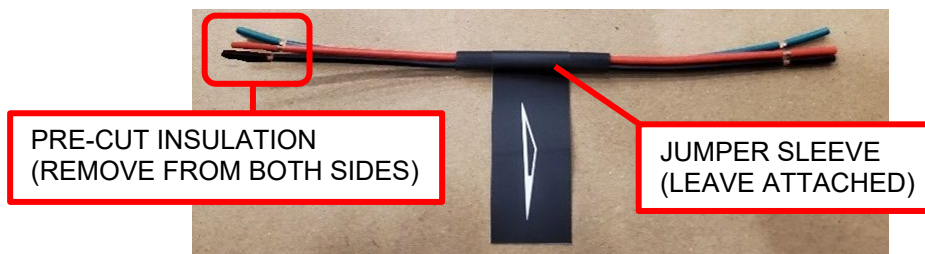

Figure 10
a. Remove and discard the pre-cut insulation from the off road lightbar jumper wire ends (x6) (Figure 10).